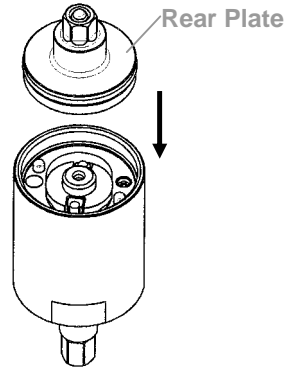

Fig. 51
- ④ Install the rear plate taken from the step 2 on the pulse cylinder. Note the corresponding positions! (Fig. 51)